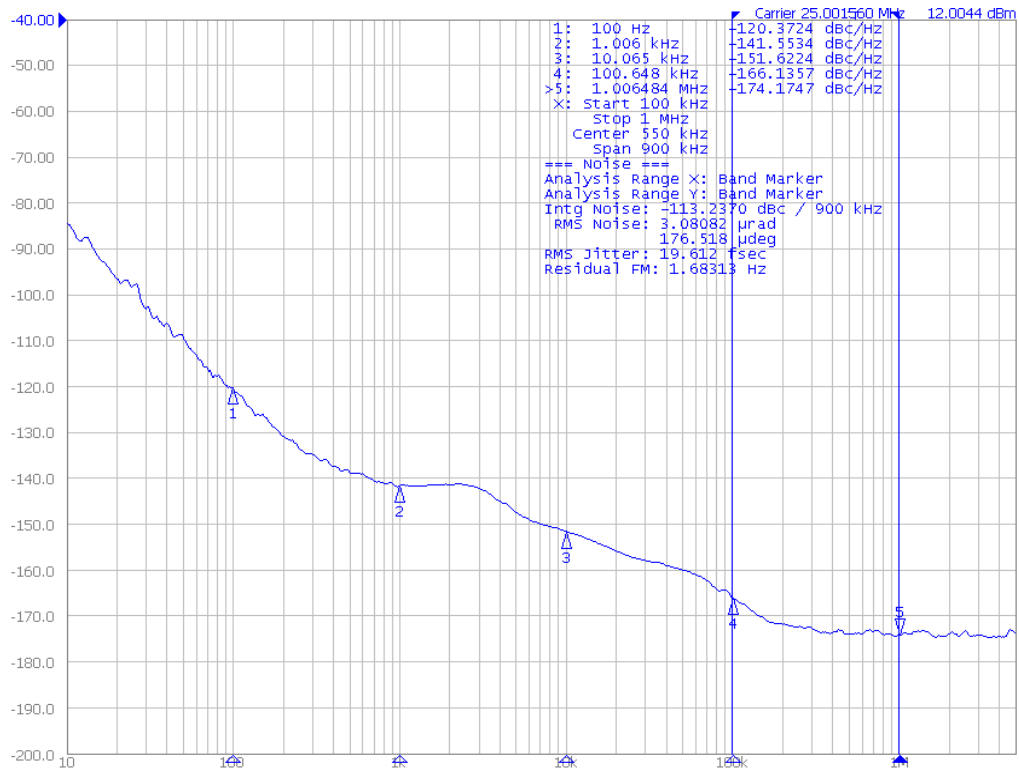

Figure 5. Typical Phase Noise Plot of the NB3H83905C Operating at 25 MHz $V_{DD} = V_{DDO} = 3.3$ V
4. Parallel terminated $50\text{ }\Omega$ to $V_{DDO}/2$ (see Figure 5).